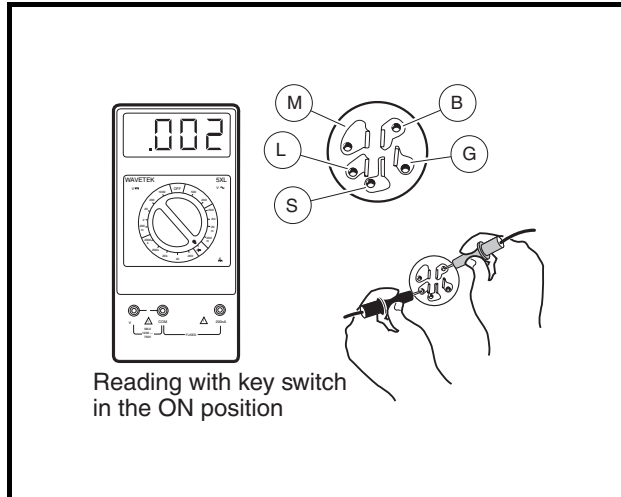
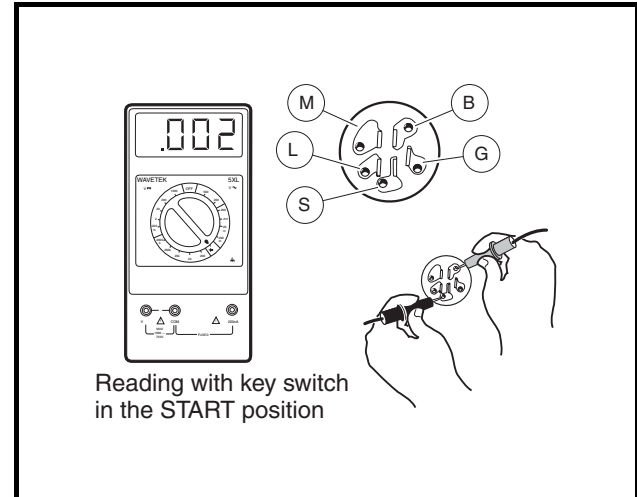

Figure 11-9 Key Switch Test – Accessory Terminal
Figure 11-10 Key Switch Test – Starter Circuit
5. Insert the key and turn the key to ON. Place the red (+) probe of the multimeter on the (B) terminal and the black (-) probe on the (L) terminal of the key switch. The reading should be continuity. If the reading is incorrect, replace the key switch (**Figure 11-9, Page 11-14**). See **Key Switch Removal, Section 12, Page 12-14.**
6. With the key still in the ON position, place the red (+) probe of the multimeter on the (B) terminal and the black (-) probe on the (S) terminal of the key switch. The reading should show no continuity. If the reading is incorrect, replace the key switch. See **Key Switch Removal, Section 12, Page 12-14.** If the reading is correct, leave the probes connected and proceed to the next step.
7. Insert the key and hold the key in the START position. The reading should be continuity. If the reading is incorrect, replace the key switch (**Figure 11-10, Page 11-14**). With the red (+) probe of the multimeter on the (B) terminal and the black (-) probe on the (L) terminal of the key switch, the reading should be continuity. If either reading is incorrect, replace the key switch. See **Key Switch Removal, Section 12, Page 12-14.**
5. Insert the key and turn the switch to the ON position. With the multimeter set to 200 ohms, place the red (+) probe of the multimeter on the (B) terminal and the black (–) probe on the (L) terminal of the key switch (**Figure 11-9, Page 11-14**). The reading should be continuity. If the reading is incorrect, replace the key switch. See **Key Switch Removal, Section 12, Page 12-14.**